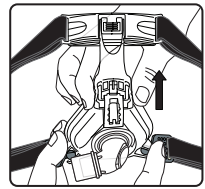

Figure 2
1. Position the stability selector to its uppermost position (Figure 2). Hold the mask cushion over your nose.